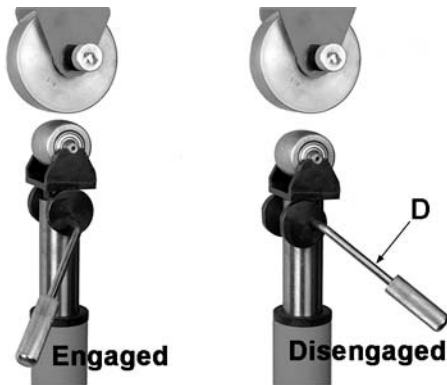

Figure 7-1
3. Tighten cam lever (D, Figure 7-1) to bring lower wheel into working position.